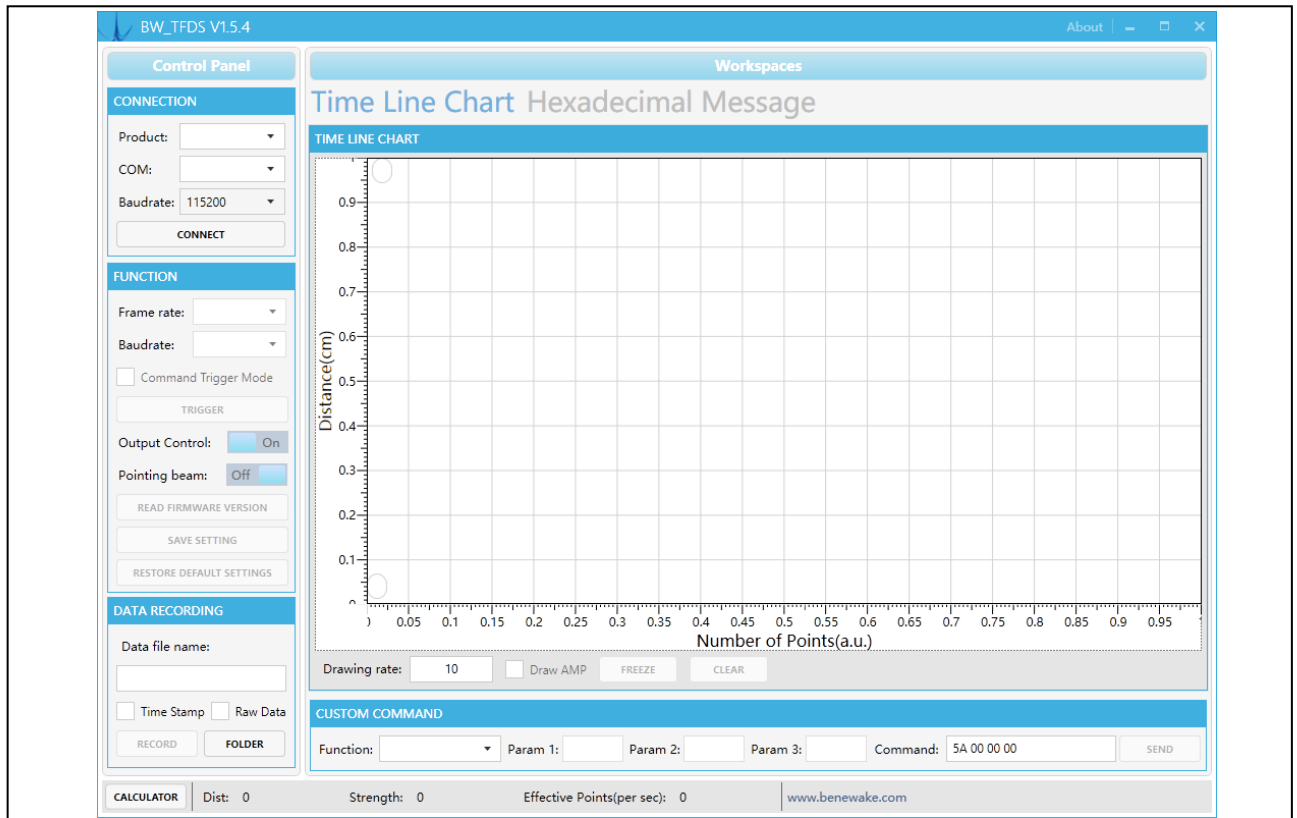

Figure 18 Benewake testing GUI for TF series
- See *Figure 18 Benewake testing GUI for TF series* for of the GUI.